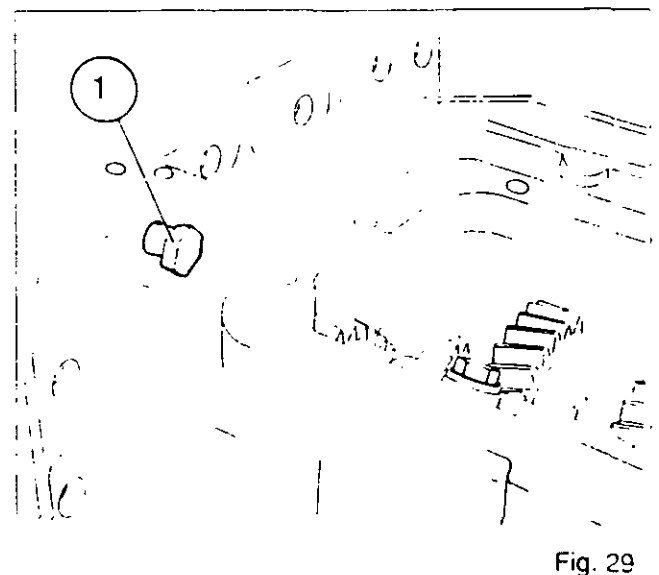

Fig. 29
92. Clean the mating face of the cover (56).
**N.B.: Do not forget to fit bolt (1) to the housing (Fig.29).**
**N.B.:** Do not forget to fit bolt (1) to the housing (Fig.29).